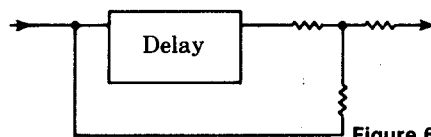

Figure 6
There are many ways to generate comb filter effects. An easily manipulated method is that of Figure 6 in which a signal and a
- 5 - Everest, F. Alton, *Handbook of Multichannel Recording*, Tab Books, Blue Ridge Summit, PA 17214, (1975), Fig. 6. 7.